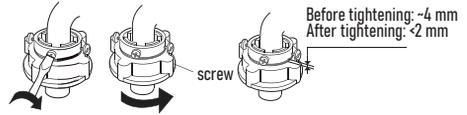

Fig. 4
4. Tighten the four screws on the connector evenly and secure the nuts (see Figure 4).
NOTE: The exposed thread length before tightening the nut shall be approximately 4 mm; after tightening it shall be less than 2 mm (see Figure 4).